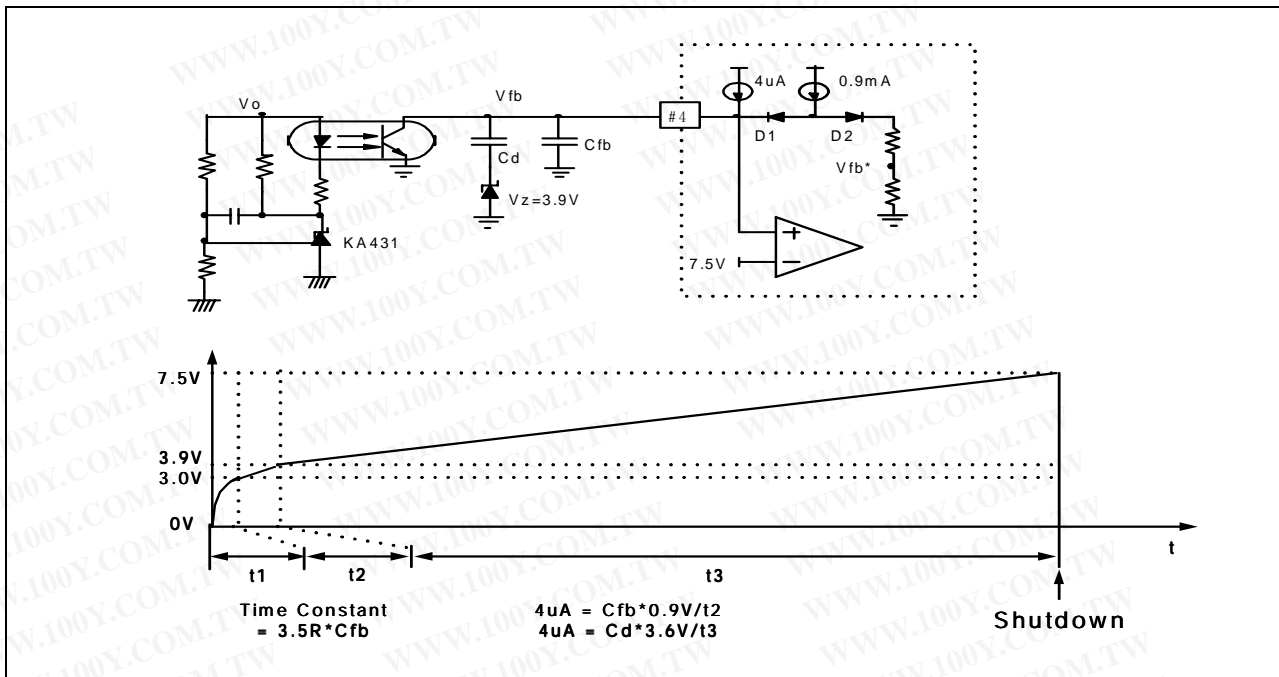

Figure 3. SPS Delayed Shutdown
SPS shutdown. If a part of delay current go through the added resistor, the time to shutdown can be lengthened. In our test the delay shutdown time with C_{fb} (473) and resistor (3.9M) is about two times longer than with only C_{fb} (473). When V_{fb} is 7.5V, the current flowing through this 3.9m Ω resistor is approximately 1.9 μ A. To obtain the same results, if a zener diode (about 3.9 ~ 4.7V) in series connection with a capacitor is parallel-connected to C_{fb} , as depicted in Fig 3., the desired shutdown delay time could be obtained according to the size of the capacitor.